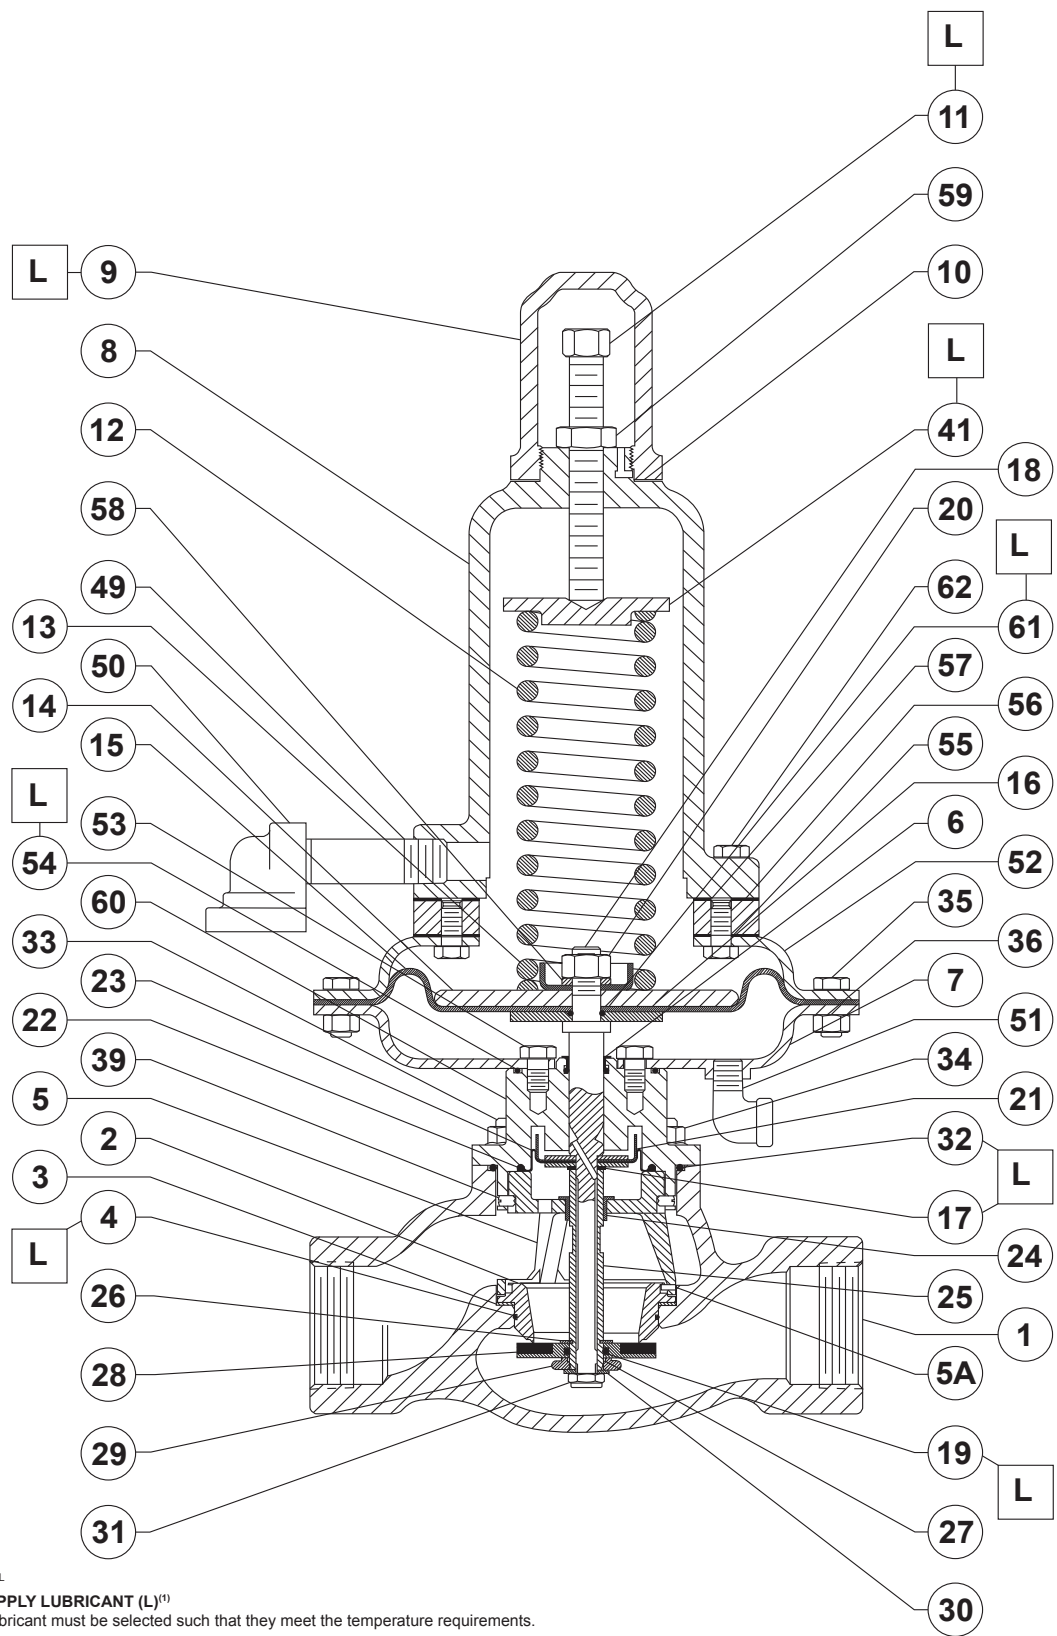

Figure 14. Type 133HP Actuator Assembly
8. Apply Multi-Purpose PTFE lubricant or equivalent to the sealing washer (key 17) and carefully slide over the threaded end of the stem (key 18).
9. Insert the guide bushing (key 24) into the cage (key 5), and slide the cage up onto the stem (key 18). Insert the set screws (key 39) only far enough to retain the cage. Do not tighten.
10. Lubricate and install the O-rings (keys 19 and 4) as indicated in Figure 14. Install the orifice (key 2) onto the cage (key 5). Install the Belleville spring washer (key 3) so that the concave face of the washer faces away from the orifice.
11. Install the E-ring (key 26) on the stem sleeve (key 25) and slide the stem sleeve over the stem (key 18) aligning the slotted end of the stem sleeve so that the roll pin (key 27) can be inserted through the cross-drilled hole in the end of the stem.